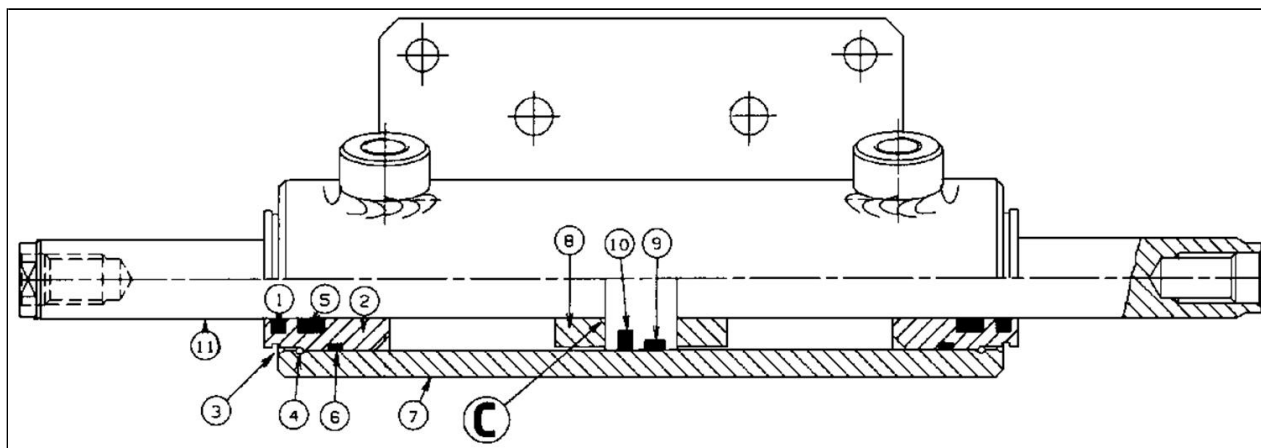

Fig.4
Fig. 4 illustrates the constructional drawing of the steering cylinder.
Proceed in the following way if the internal cylinder seal and relative scraper (parts **9** and **10**) of (fig. 4) need replacing:
- using a pair of pliers, remove the garter spring (part **4**) of (fig. 4) from both the rh and lh sides of the cylinders by means of the two openings on the actual cylinder itself which have been made for this purpose;